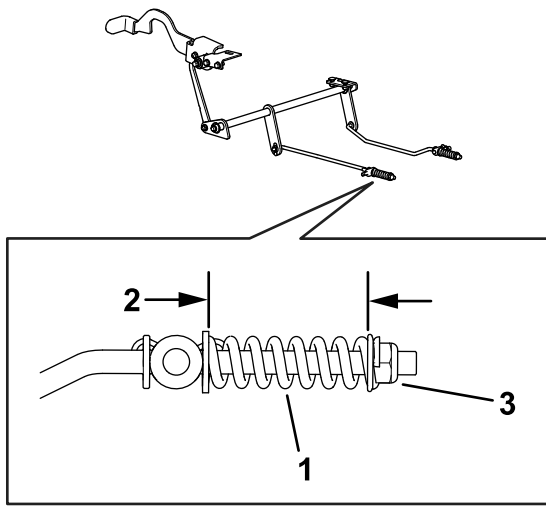

**Figure 58**
8. Check both spring lengths as shown in Figure 58. If an adjustment is necessary, turn the spring retention nut clockwise to shorten the spring and counterclockwise to lengthen it. Repeat step 6.